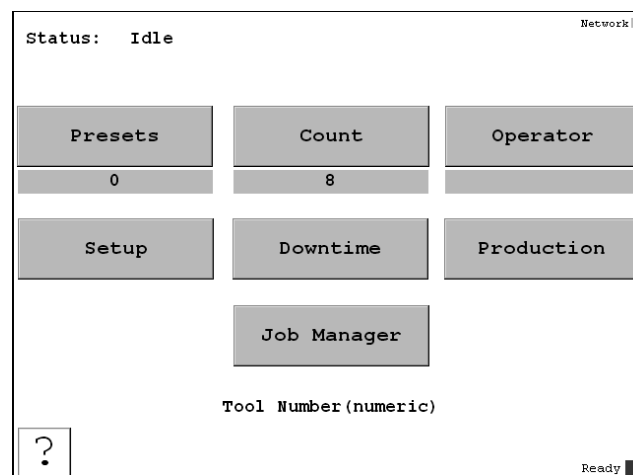

Figure 2-8. SMI 2 Main Menu
2. Turn on power to SMI 2. The SMI 2 Main Menu, shown in Figure 2-8, should display.